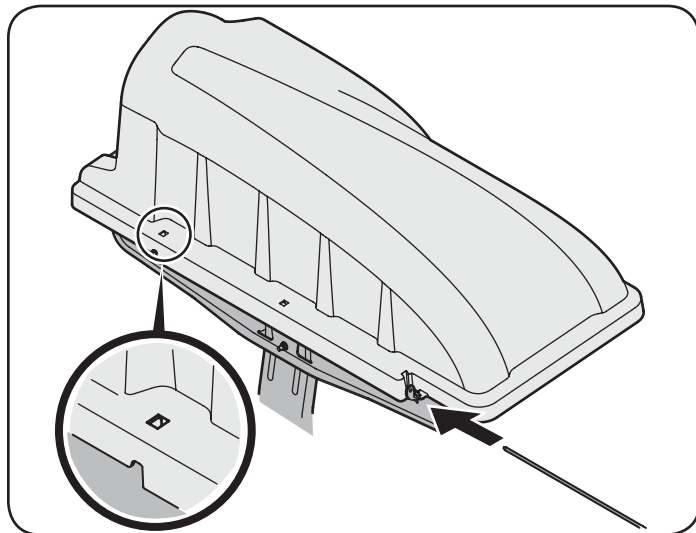
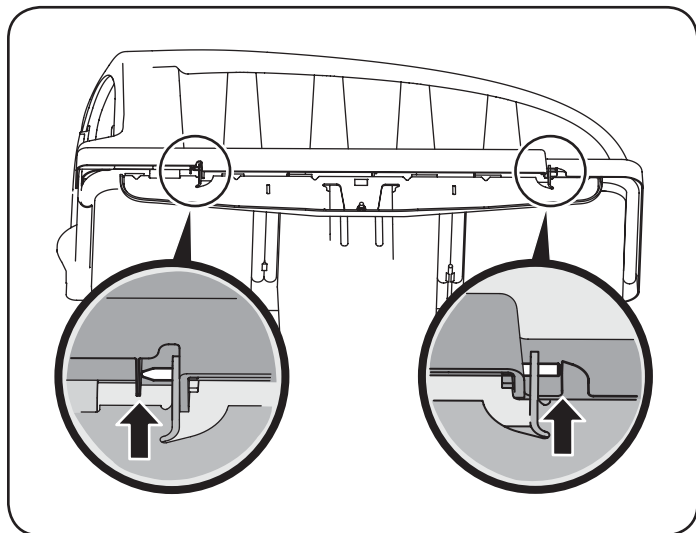

Figure 11
Figure 12
6. Slide the hinge pin into the hole located on the mounting tab, as in Figure 11. Use the cut-out window (See inset in Figure 11) to line up the hinge pin on the other side and push pin all the way in until it reaches the end-stop. At this point the pin clips into place and is secured by a tab in the bagger cover. See Figure 12.